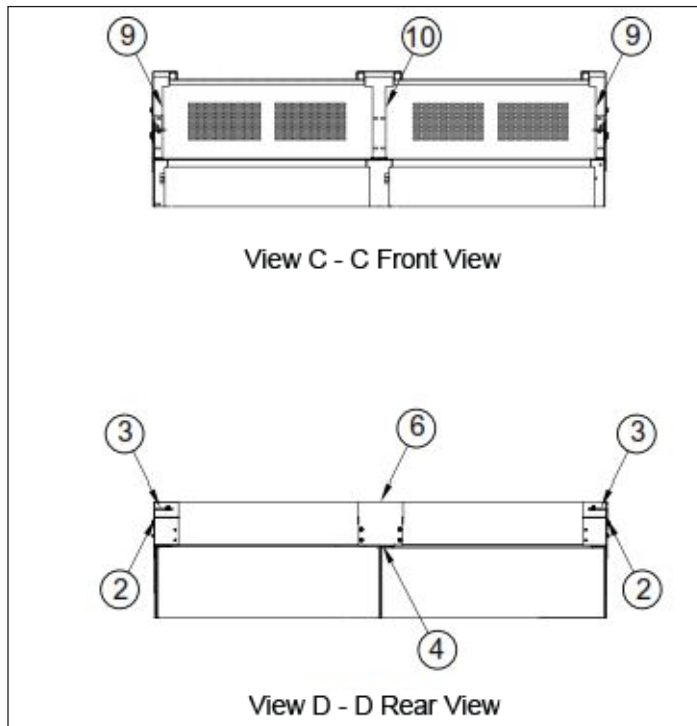

Figure 20. Filler Pieces and End Trim Locations for 38 kV, 150 BIL Structures.
16. Install the aisle fillers. Refer to Figures 20 and 21.
21. Install unit seam covers and roof fillers. Refer to Figures 20 and 21.